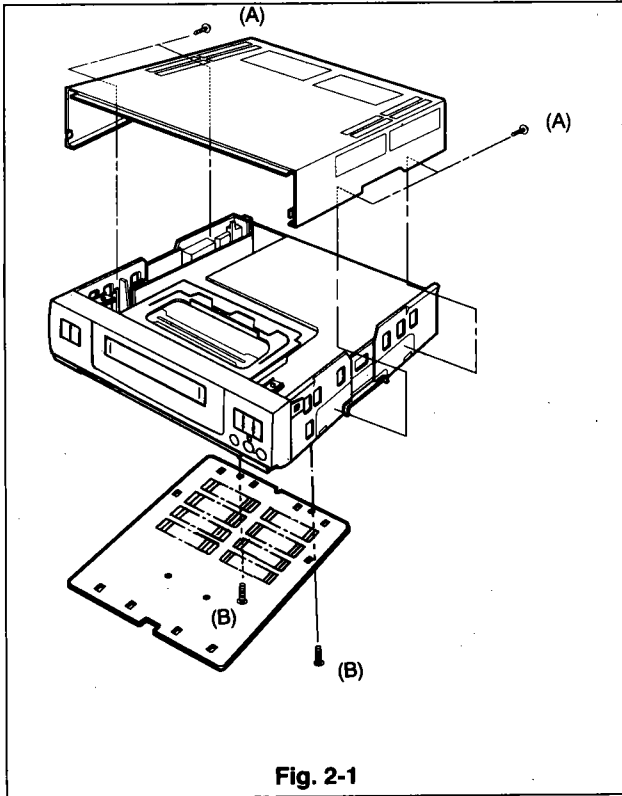

Fig. 2-1
- A. Release 4 screws (A). (See Fig. 2-1)
- C. Release 2 screws (B). (See Fig. 2-1)
- A. Remove the top Case (See Fig. 2-1).
- B. Remove the bottom Cover (See Fig 2-1).